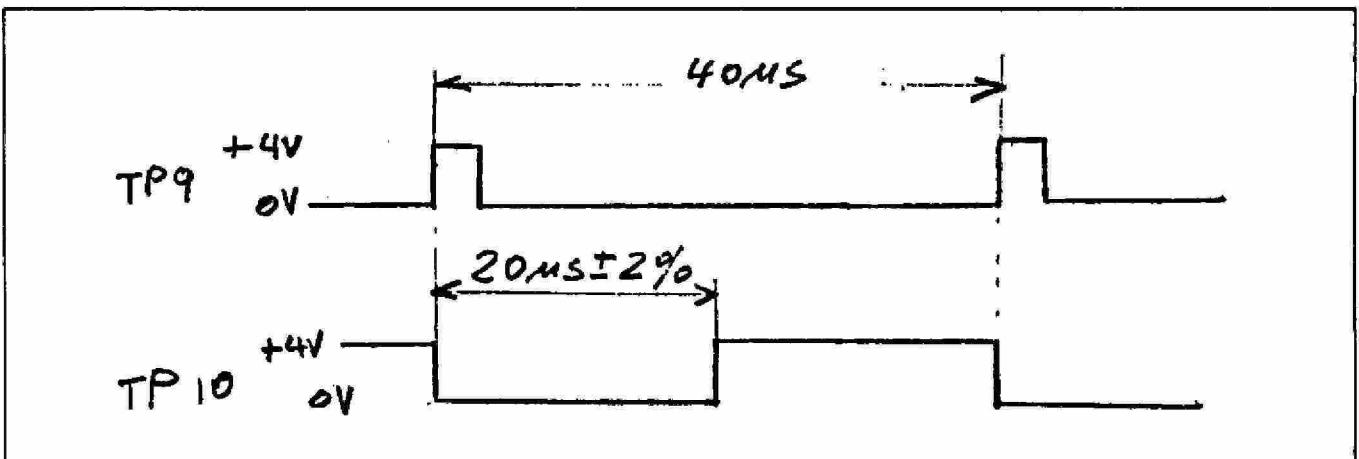

FIGURE 5-23. 0° LOCK DUTY CYCLE SETTING
- 1) Set the signal at TP10 with R87 to obtain a 50 percent duty cycle as shown in Figure 5-23.